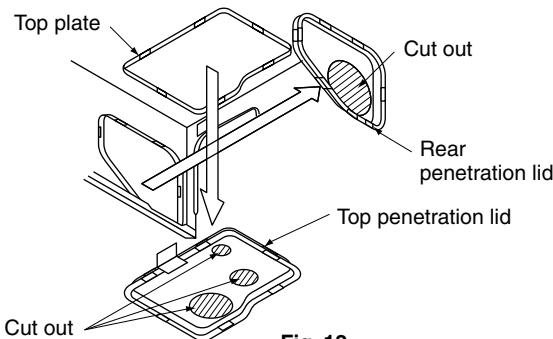

Fig. 12
- Remove the rear cover for piping. (Refer to Fig. 12, 14)
- Remove the cover for ceiling outlet and use optional L-shape piping kit for piping. (Refer to Fig.12, 13)
- When piping is complete, cut the removed penetration lid into the shape of the piping using scissors and attach. As when before removing the top penetration lid, secure the lead lines for the swing motor and thermistor by passing them through the cramp part on the top penetration lid. (Refer to Fig. 12, 15)